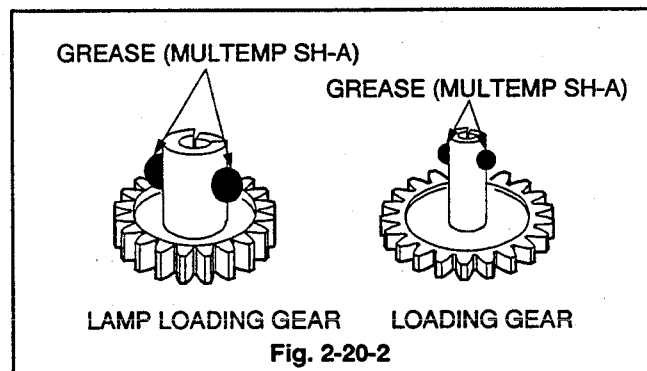

Fig. 2-20-2
2. Apply **GREASE (MULTEMP SH-A)** [859D055O80] to the area specified in Fig. 2-20-2 on the new **LAMP LOADING GEAR**.
4. Apply **GREASE (MULTEMP SH-A)** [859D055O80] to the area specified in Fig. 2-20-2 on the new **LOADING GEAR**.